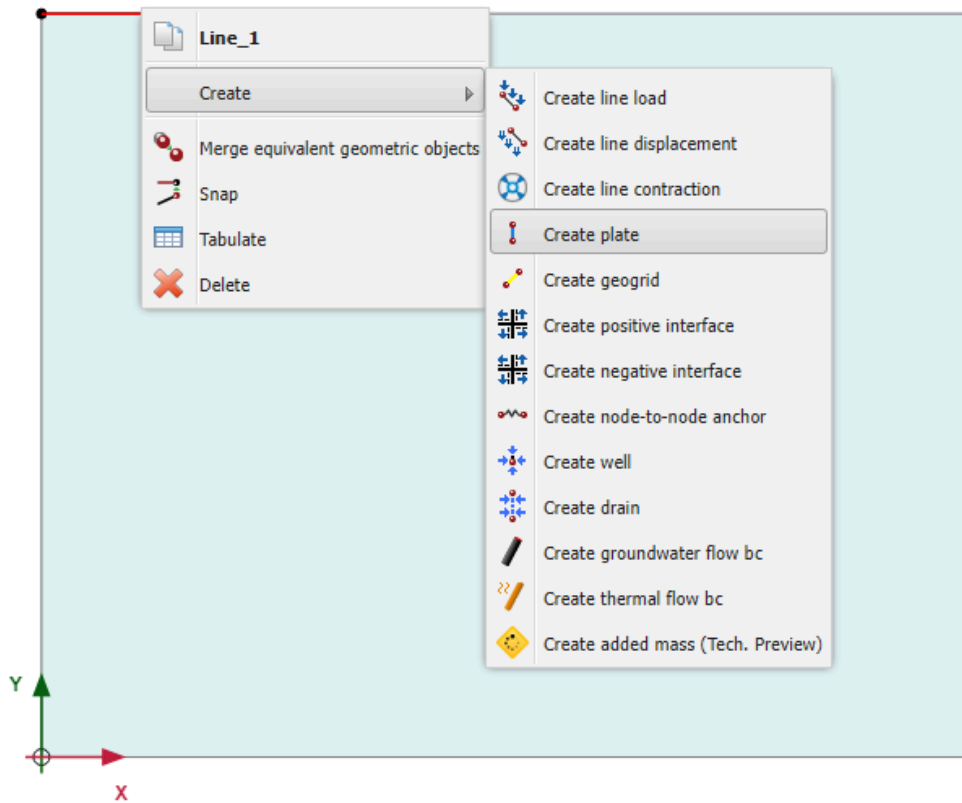

Figure 1-22: Create Plate option
- 4 In the model right-click the line at the location of the footing. Select **Create > Create Plate** as shown in Figure 1-22 \(p. 32\).